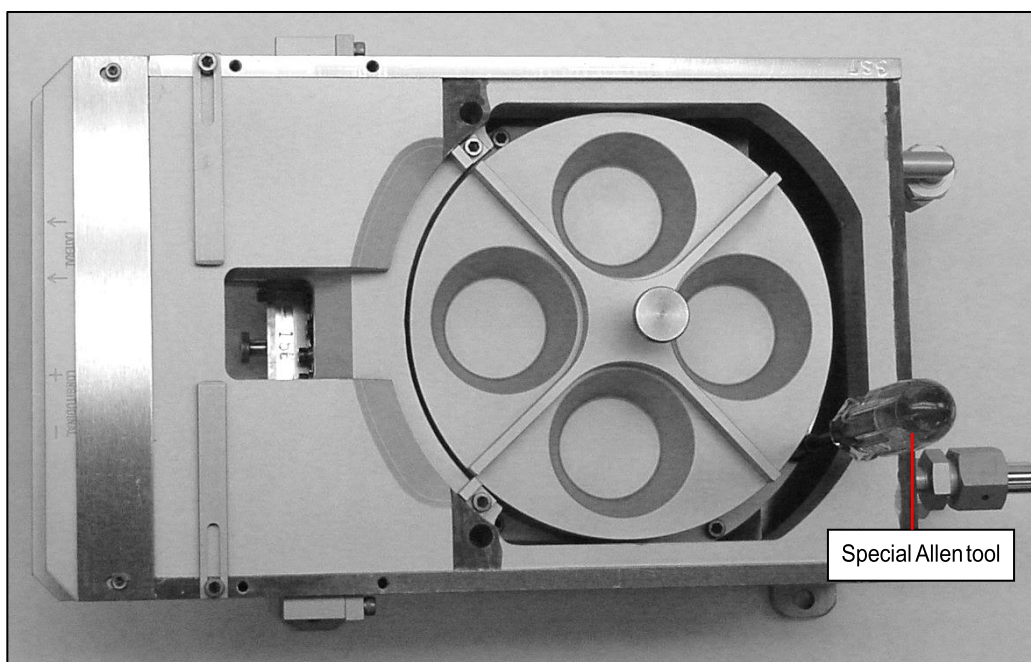

Figure 5-4. Removing the Screws that Secure the Crucible to the Crucible Mounting Flange
Step 3: Remove the screws that secure the crucible to its mounting flange. There are eight of these screws, six of which will be accessible if you turn the crucible to the position shown in Figure 5-4. Perform the following steps in removing these screws: